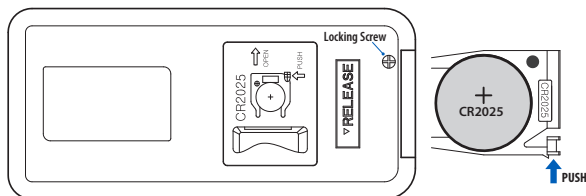

Figure 2
- To replace the battery, remove the locking screw on the back of the remote control using a small Phillips screwdriver, then push the tab on the left of the battery tray towards the right and pull out the battery tray from the remote control (see **Figure 2**). Place a new "CR2025" battery on the tray with the positive (+) side facing up. Insert the tray back into the remote control and secure with the locking screw.